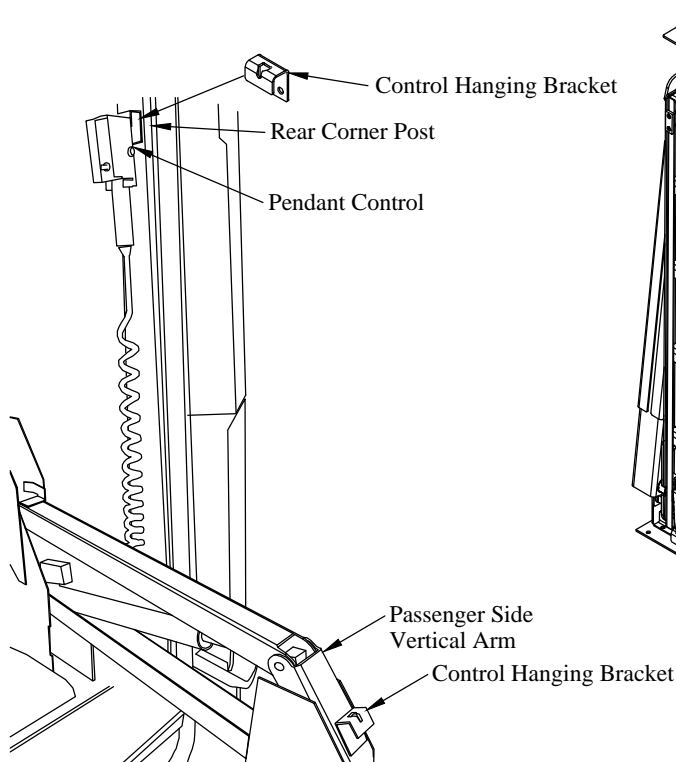

Figure 21: Control Hanging Brackets.
7. **Select** a location to install the control hanging bracket. Use a location on the passenger side rear corner post of the van at a height that allows the entire pendant cord to be completely inside the van when stored (Figure 21).
12. **Install** second control hanging bracket with supplied 3/8" bolts on the passenger side vertical arm where the lifting angle was removed (Figure 21).